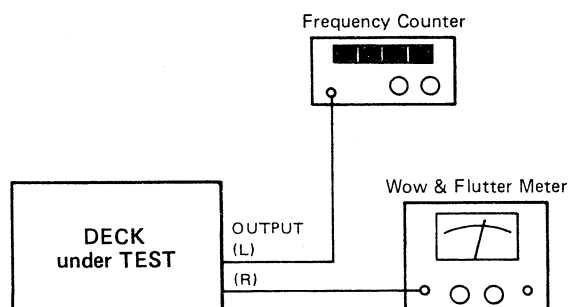

Fig. 6-11
1. Connect the test equipment to the deck as shown in Fig. 6-11.